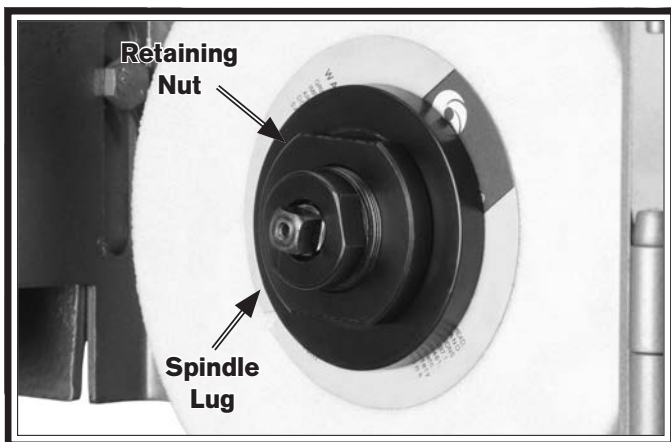

Figure 22. Wheel retaining nut.
3. Position the spindle wrenches on the spindle lug and the retaining nut (see **Figure 22**).